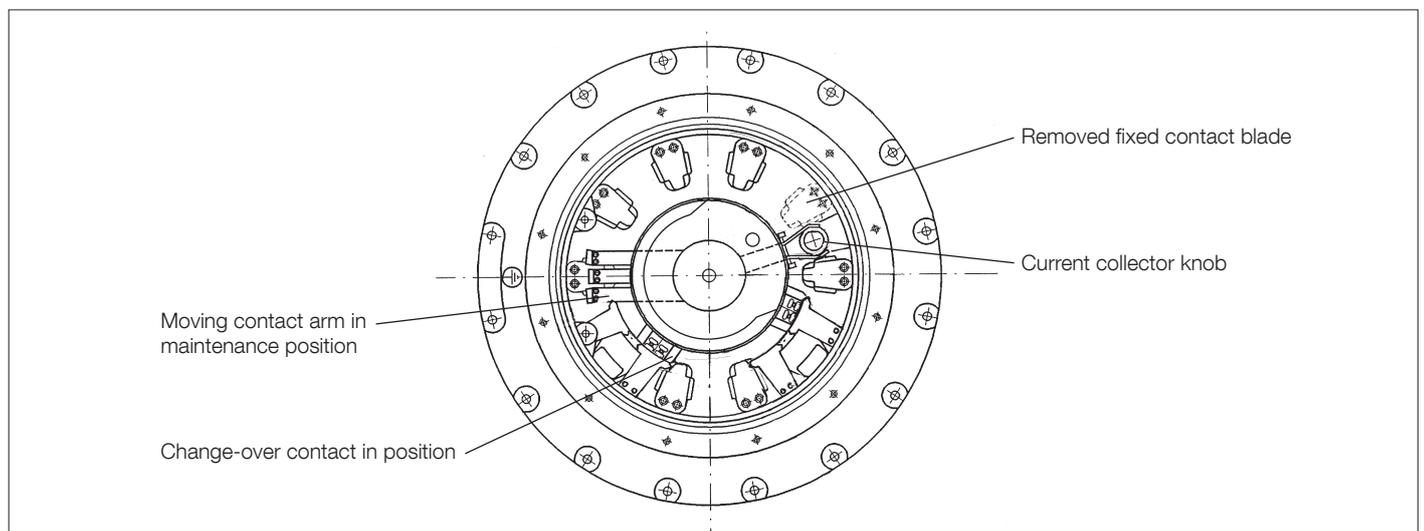

Fig. 6. UBB in position before removal of the switch insert.
At 10-pitch, (the number of fixed contacts in one phase of the selector switch), remove the contact blade next to the current collector in each phase, see Fig. 6, if 12- or 14-pitch removing of two contact blades in each phase is recommended.
See Fig. 6.
2. Twist the tool clockwise until the moving contacts of the selector switch shaft have reached the position for the removed fixed contact blades and close to the current collectors. See Fig. 6.